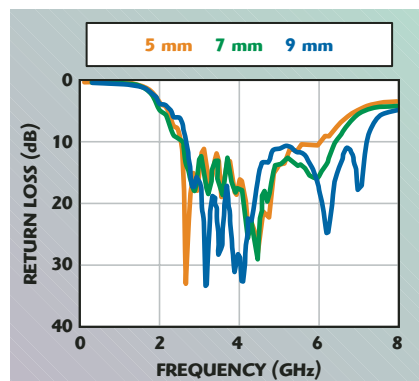

Fig. 3 Measured return loss for different values of  $W_3$ .
**Figure 3** shows the return loss for different widths of the rectangular